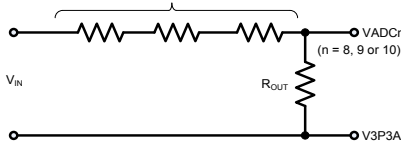
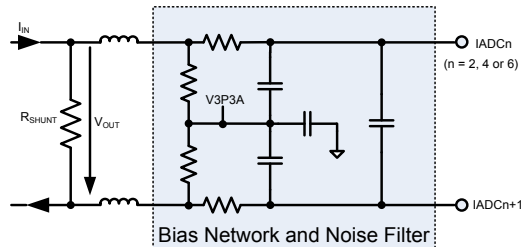
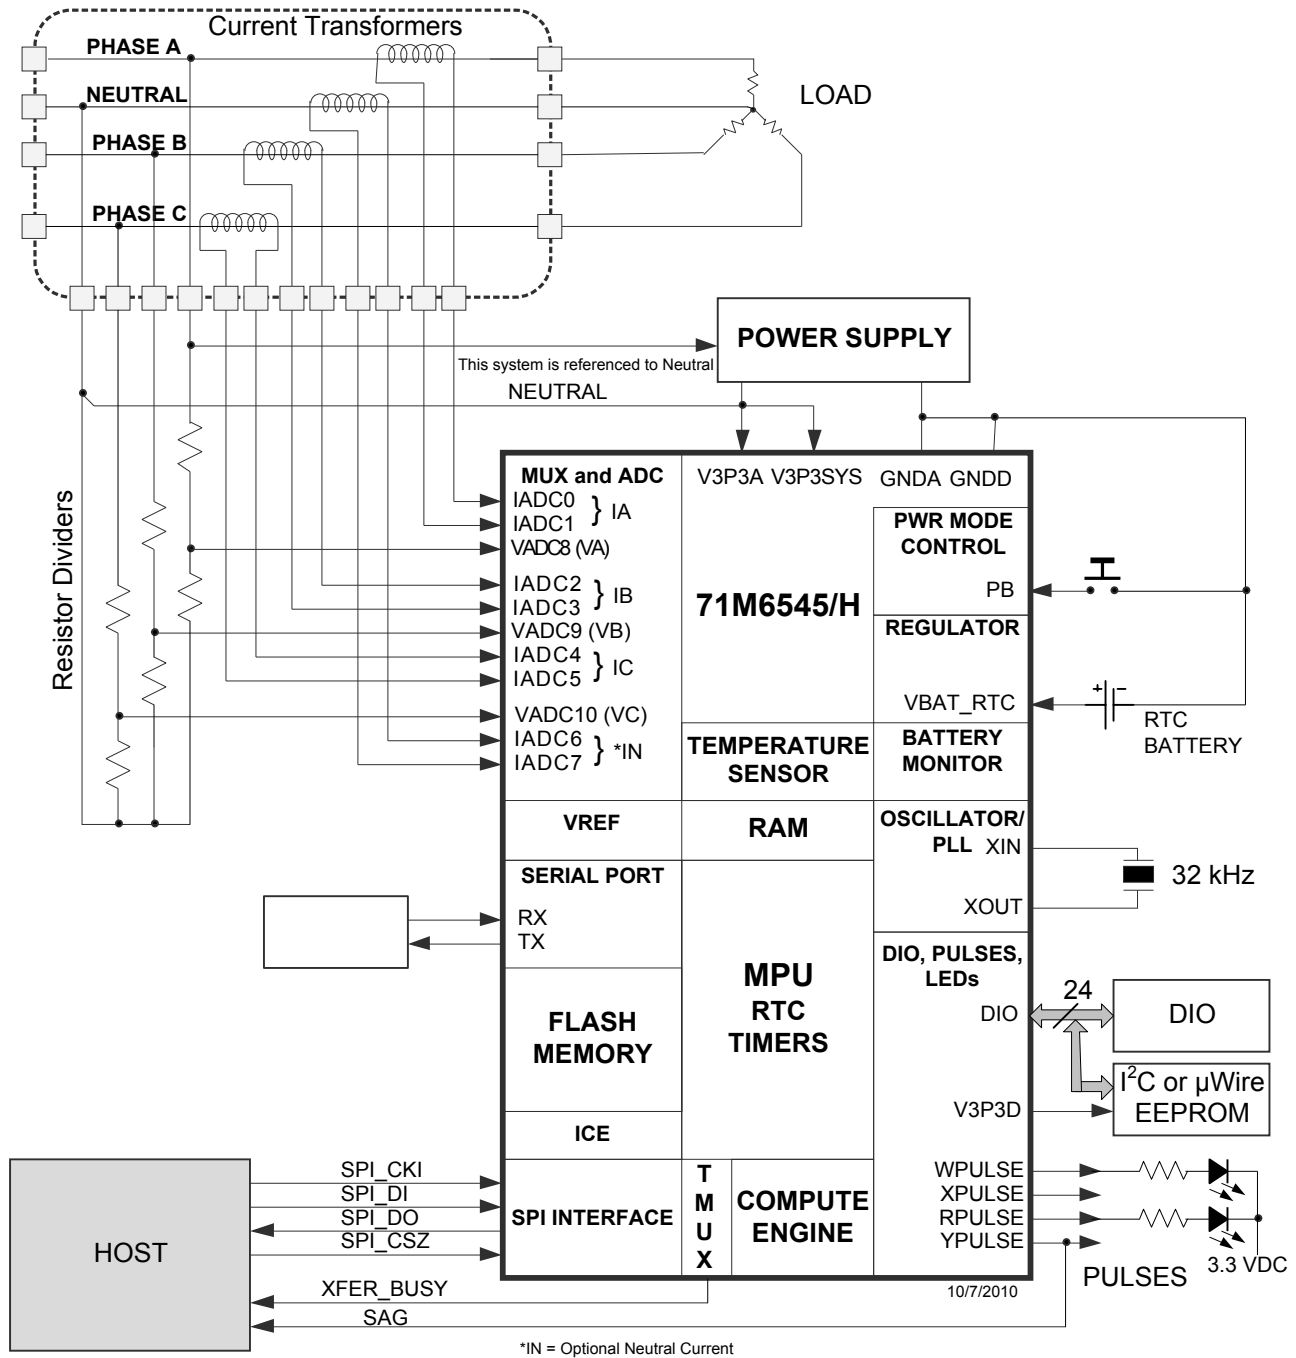

Figure 23: Resistive Voltage Divider (Voltage Sensing)
Figure 26: Differential Resistive Shunt Connections (Current Sensing)
Figure 28. System Using Current Transformers
Figure 23 through Figure 26 show voltage-sensing resistive dividers, current-sensing current transformers (CTs) and current-sensing resistive shunts and how they are connected to the voltage and current inputs of the 71M6545/H. All input signals to the 71M6545/H sensor inputs are voltage signals providing a scaled representation of either a sensed voltage or current.
Figure 28 shows a poly-phase system using four current transformers to support optional Neutral current sensing for anti-tamper purposes. The Neutral current sensing CT can be omitted if Neutral current sensing is not required. The system is referenced to Neutral (i.e., the Neutral rail is tied to V3P3A and V3P3SYS).
for the voltage sensors (see Figure 23) determine the behavior of the voltage division ratio with respect to temperature. It is recommended to use resistors with low temperature coefficients, while forming the entire voltage divider using resistors belonging to the same technology family, in order to minimize the temperature dependency of the voltage division ratio. The resistors must also have suitable voltage ratings.
This section discusses metrology temperature compensation for meter designs where Current Transformer (CT) sensors are used, as shown in Figure 28.
Referring to Figure 28, the VADC8 (VA), VADC9 (VB) and VADC10 (VC) voltage sensors are directly connected to the 71M6545/H. Thus, the precision of the voltage sensors is primarily affected by VREF in the 71M6545/H. The temperature coefficient of the resistors used to implement the voltage dividers for the voltage sensors (see Figure 23) determine the behavior of the voltage division ratio with respect to temperature. It is recommended to use resistors with low temperature coefficients, while forming the entire voltage divider using resistors belonging to the same technology family, in order to minimize the temperature dependency of the voltage division ratio. The resistors must also have suitable voltage ratings.
**Table 58: GAIN\_ADJx Compensation Channels (Figure 3, Figure 28, Table 2)**